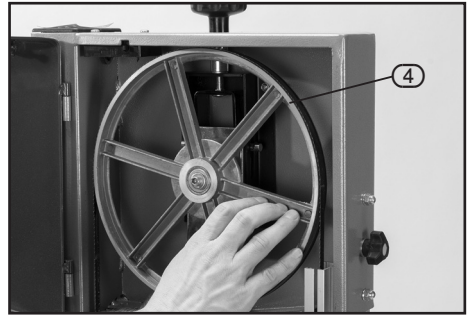

FIG. 14
9.7 TRACKING THE BLADE – FIGS. 14 – 15